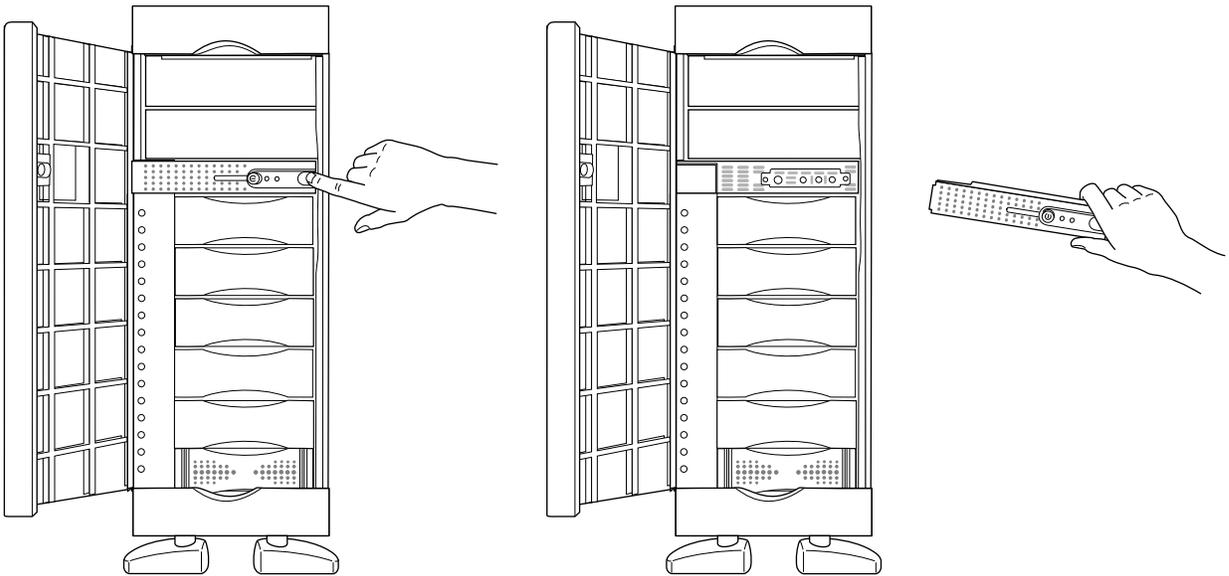

Figure 2-1 Removing the Crossbar (Origin Vault Standalone Tower)
7. For the tower, or for a rackmounted Origin Vault option with the bottom-opening door, open the door and remove the crossbar, as shown in Figure 2-1. Set the crossbar aside.